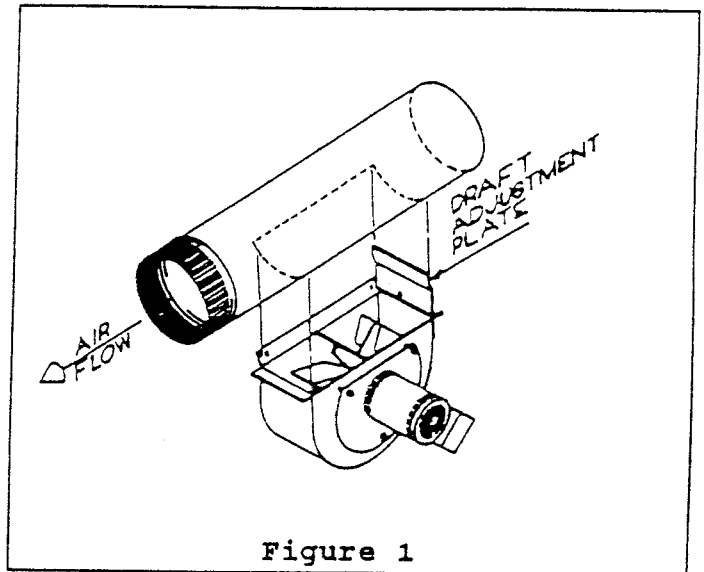

Figure 1
A. If installing a DI-2, DI-3, DI-4, or DI-5, mount draft adjustment plate onto fan housing. (See Figure 1.)
B. Draft inducer can be installed on horizontal, vertical or inclined vent pipe. **Never** install draft inducer on top or side of horizontal or inclined vent pipe. Using supplied mounting template, cut out indicated area on vent pipe. Install inducer into vent pipe and mark the location of the mounting holes. Drill holes to the diameter indicated on template. Secure inducer housing to vent pipe with screws supplied. (See Fig. 1.) Support the vent pipe and draft inducer with an accepted method.
E. To adjust draft inducer air flow on the Model DI-1, manually bend the draft adjustment plate until desired draft is obtained. For Models DI-2, DI-3, DI-4 and DI-5, loosen the nut(s) and readjust the position of the draft adjustment plate until desired draft is obtained. Then retighten nut(s). (See Figure 1.) Removal of adjustment plate will increase air flow.